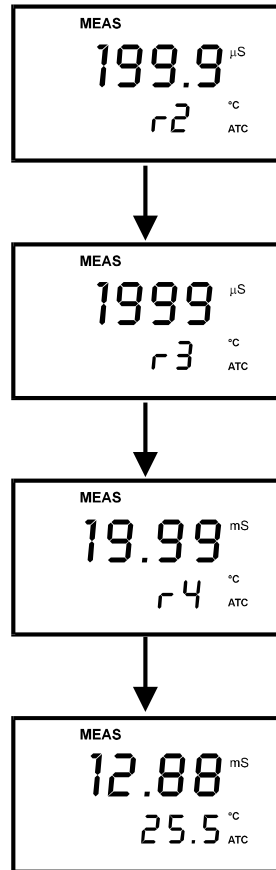

Figure 21 - Auto-ranging feature
4. The primary display will show the actual conductivity value. See Figure 21.